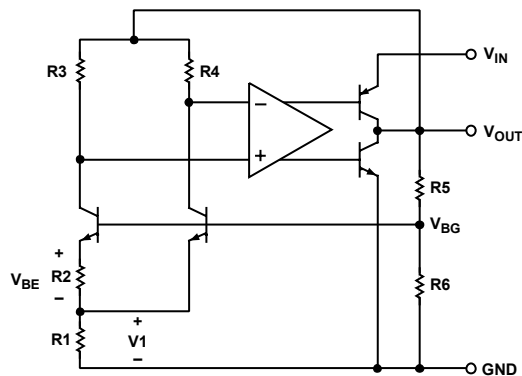

Figure 9. Simplified Schematic
The AD1582/AD1583/AD1584/AD1585 family uses the band gap concept to produce stable, low temperature coefficient voltage references suitable for high accuracy data acquisition components and systems. This family of precision references uses the underlying temperature characteristics of a silicon transistor's base emitter voltage in the forward-biased operating region. Under this condition, all such transistors have a $-2 \text{ mV}/^\circ\text{C}$ temperature coefficient (TC) and a V_{BE} that, when extrapolated to absolute zero, 0°K (with collector current proportional to absolute temperature), approximates the silicon band gap voltage. By summing a voltage that has an equal and opposite temperature coefficient of $2 \text{ mV}/^\circ\text{C}$ with the V_{BE} of a forward-biased transistor, an almost 0 TC reference can be developed. In the AD1582/AD1583/AD1584/AD1585 simplified circuit diagram shown in Figure 9, such a compensating voltage, V_1 , is derived by driving two transistors at different current densities and amplifying the resultant V_{BE} difference (ΔV_{BE} , which has a positive TC). The sum of V_{BE} and V_1 (V_{BG}) is then buffered and amplified to produce stable reference voltage outputs of 2.5 V, 3 V, 4.096 V, and 5 V.